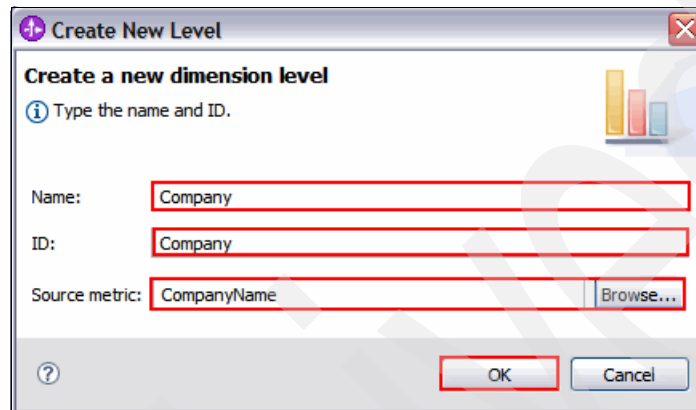

Figure 7-86 Create New Level window
4. In the Create New Level window (Figure 7-86):